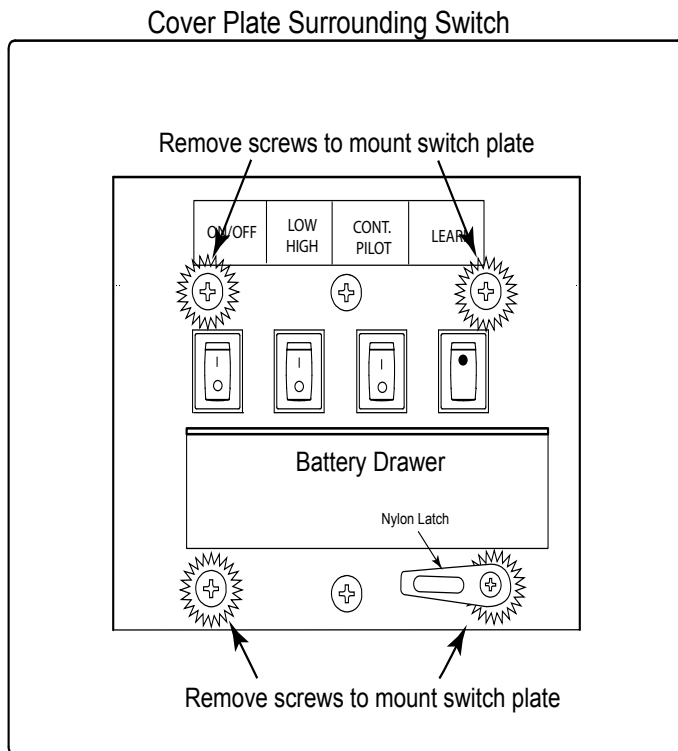
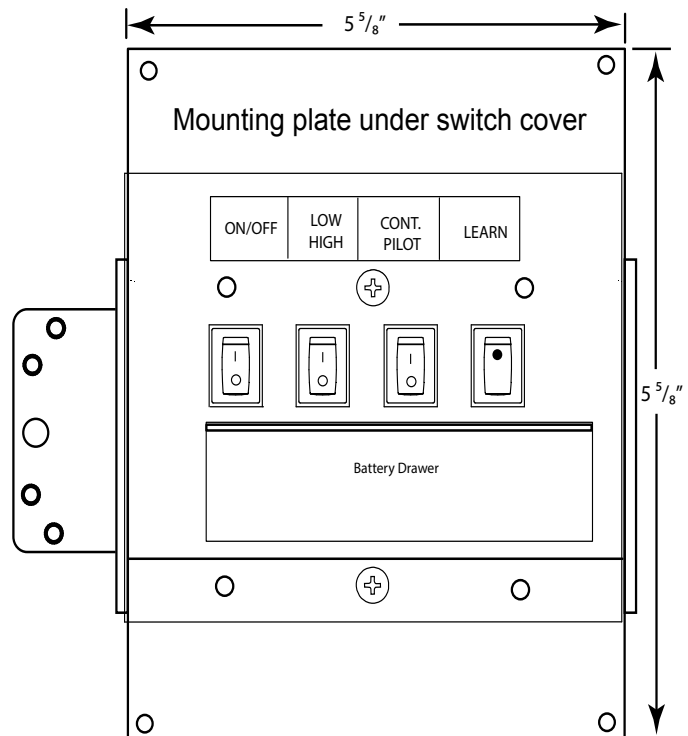
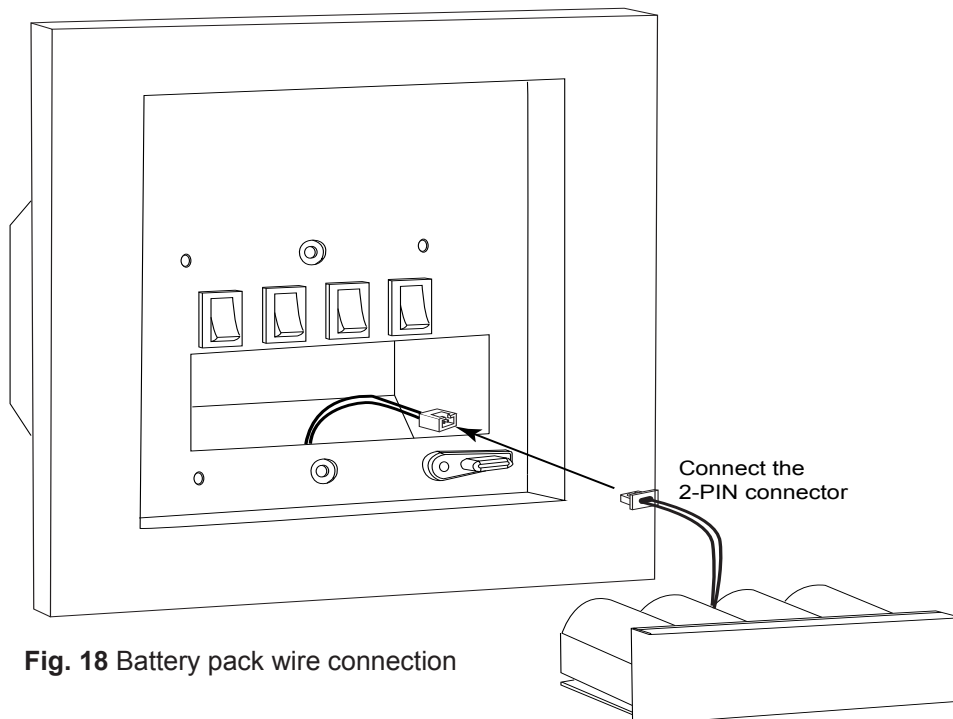

Fig. 15 Control box with 8 3/4" x 8 3/4" cover/face plate.
Fig. 16 Control box mounting plate
Fig. 18 Battery pack wire connection
Step 4: Remove the control box from the components parts carton. The fireplace is supplied with 10-feet of wiring for the control box switch installation. Find a suitable location within a close proximity of the fireplace for convenience of operation and mount the control box upright and level as shown in Fig. 14 on page 16. Use Figs 15 & 16 for dimensional reference. **CAUTION:** Ensure all switches are in the OFF position. "I" indicates ignite/ON and "O" indicates OFF. The switch on the far right is a "Learn" switch. It does not turn ON and OFF, it remains in its original position.
Step 5: Remove the four (4) outer screws from each corner inside the cover plate shown in Fig. 15 and remove the outer face plate and nylon latch. This will expose the mounting plate. See Fig. 16. **CAUTION:** Do not remove the two center screws from the cover plate. This will release the entire switch box wiring from inside the junction box and make it difficult to reinstall.
Step 9: Turn (rotate) the nylon latch up or down (out of the way) of the battery box drawer (Fig. 16; page 17).
Step 10: Pull the battery box drawer out of the control box and install the (4) C-size batteries (included) in the battery pack. Follow the diagram inside for battery direction.
Step 11: Look for the 2-PIN connector at the back of the battery pack and the mating 2-PIN connector inside the control box. Insert the male connector into the female connector then carefully install the battery pack drawer back into the control box. Move the nylon latch over edge of the battery box drawer to secure it into place. See Fig. 18. **Note:** Careful not to pinch the wires when installing the battery box drawer back into the control box.